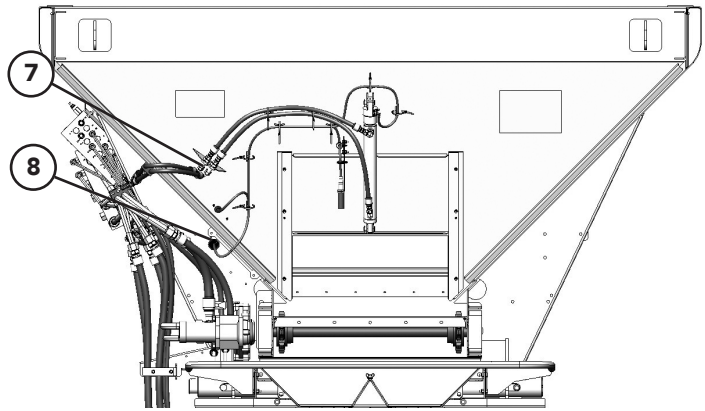

Figure 4 - Hoses and Harness
- Figure 4 - Disconnect Feedgate Hydraulic Hoses (7) and Electrical Harness (8).